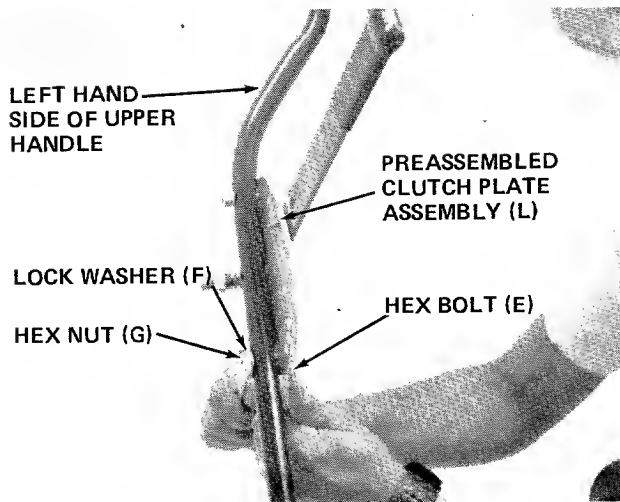

FIGURE 6.
7. Place preassembled clutch plate assembly (L) on the left hand side of upper handle. Secure in place with hex bolts (E), lockwashers (F) and hex nuts (G). See figure 6.